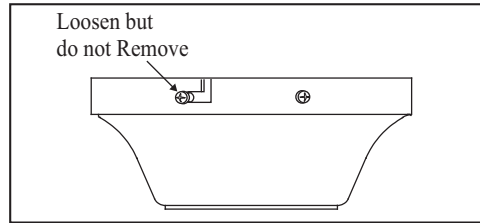

Figure 5
1. Loosening the four screws on the top of the canopy. (Figure. 5)
1. Remove the mounting bracket from the canopy by loosening the four screws on the top of the canopy. Remove the two non-slotted screws and loosen the slotted screws (Figure 5 and 6).